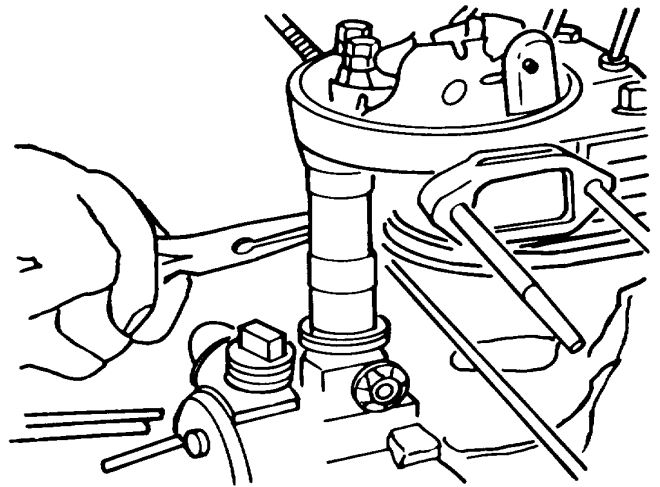

Figure A-9. Bolt Holding Two Cylinder Head
- (1) Remove the bolt holding the two cylinder head shields together using a screwdriver and needle nose pliers. (Figure A-9)